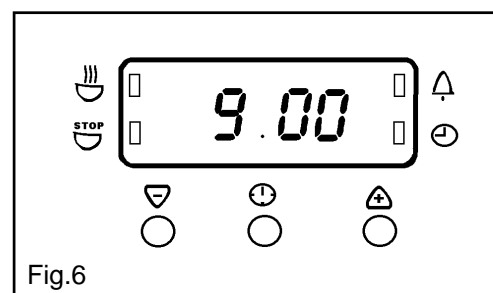

Fig.6
- Ensure the electricity supply is switched ON and that the correct time of day is displayed, e.g. 9.am. as Fig. 6.